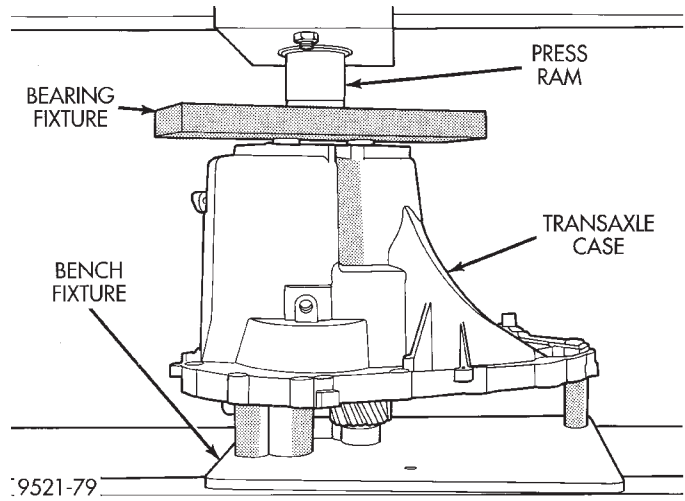
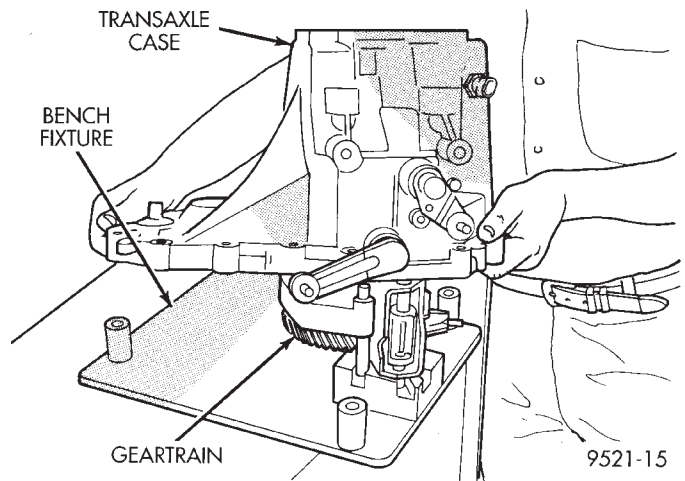
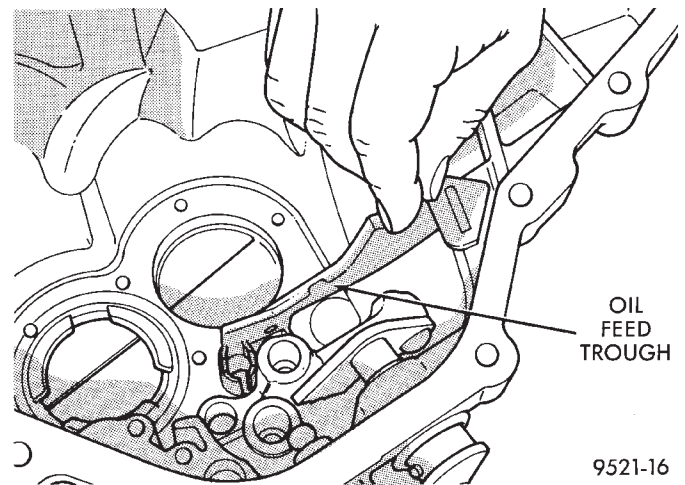

Fig. 55 Pressing Gears Out of Case
Fig. 56 Transaxle Case Removal
Fig. 57 Oil Feed Trough
(15) Install transaxle gear case into shop press. Press output and input shaft assemblies out of case (Fig. 55).
(16) Remove transaxle from press.
(17) Carefully remove transaxle case from the shaft assemblies and bench fixture (Fig. 56). Be sure the oil-feed trough to the end bearings is not damaged (Fig. 57).